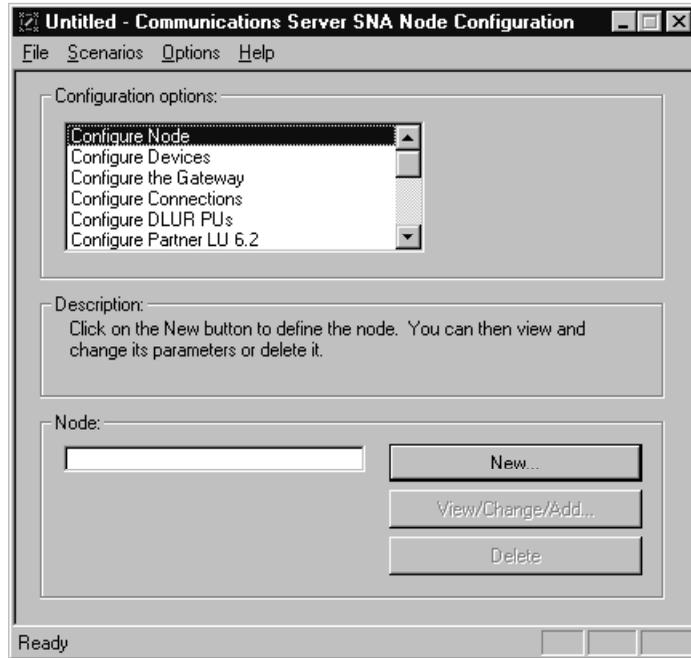

Figure 66. Communications Server SNA Node configuration window
- 4 From the Configuration options list box select **Configure Node** and then **New**, as shown in Figure 66. The Define the Node window appears.
- 1 From the Configuration options list box shown in Figure 66 on page 146 select **Configure Devices**.
- 1 From the Configuration options list box shown in Figure 66 on page 146 select **Configure Connections**.
- 1 From the Configuration options list box shown in Figure 66 on page 146 select **Configure Partner LU 6.2** and then **New**.